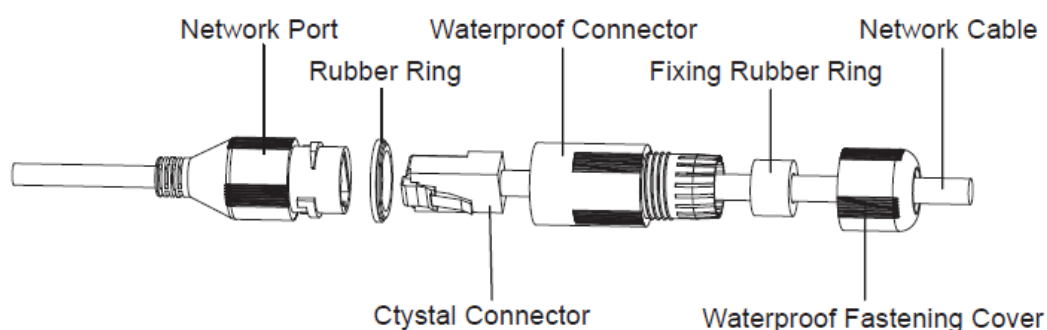

Figure 2-3
Step 3 Install waterproof connector for network port, which is shown in Figure 2-3.